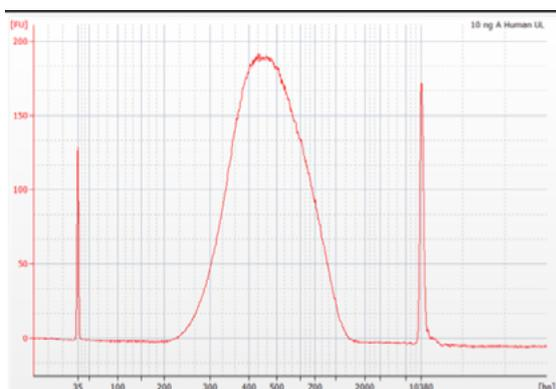
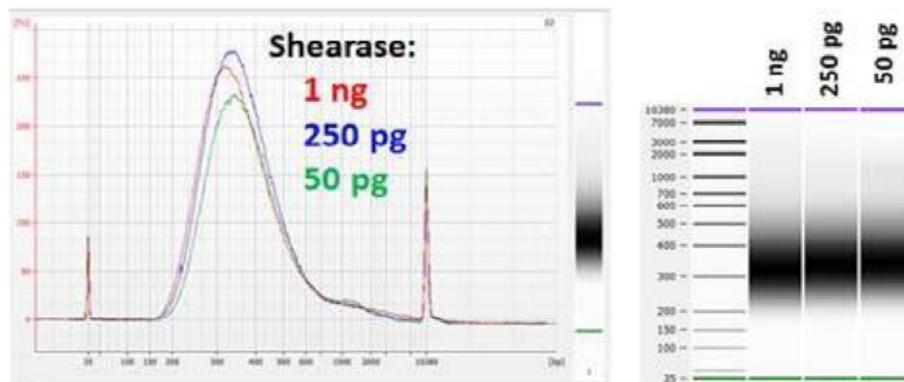

Figure 3. Typical Bioanalyzer trace for library generated using input gDNA sheared mechanically to 350 bp.
Figure 4. Typical Bioanalyzer traces for final libraries generated using input gDNA sheared enzymatically.
2. Analyse 1 μL of the library on a Bioanalyzer High Sensitivity Chip to determine size distribution. Ideally, the peak should center on 420 bp for a 300 bp insert (mechanically sheared). See Figure 3 (below) for typical Bioanalyzer trace of library generated using DNA initially sheared to 350 bp. See Figure 4 (below) for library generated using enzymatically fragmented DNA (~200 bp inserts).